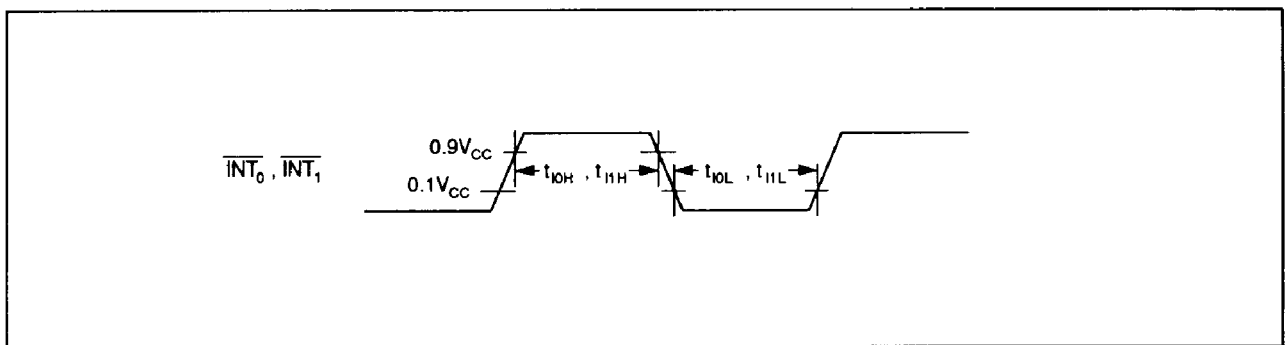

Figure 54 Interrupt Timing
4. See figure 54. The unit  $t_{cyc}$  is applied when the MCU is in standby mode or active mode.
6. See figure 54. The unit  $t_{SUBcyc}$  is applied when the MCU is in the watch mode or subactive mode.  $t_{SUBcyc} = 244.14 \mu s$  (when a 32.768-kHz crystal oscillator is used.)